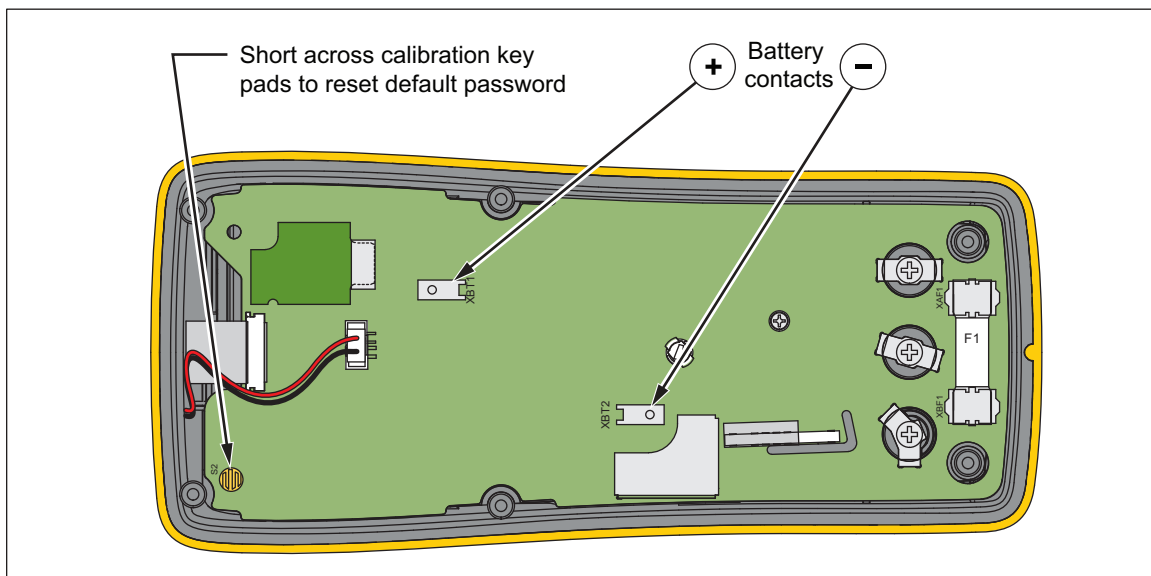

Figure 4. Calibration Password Reset
4. Apply 4.5 V dc across the battery contacts on the pca. Note the polarity that is shown in Figure 4.
6. Short across the CAL keypad on the pca. See Figure 4. The default password is now restored.